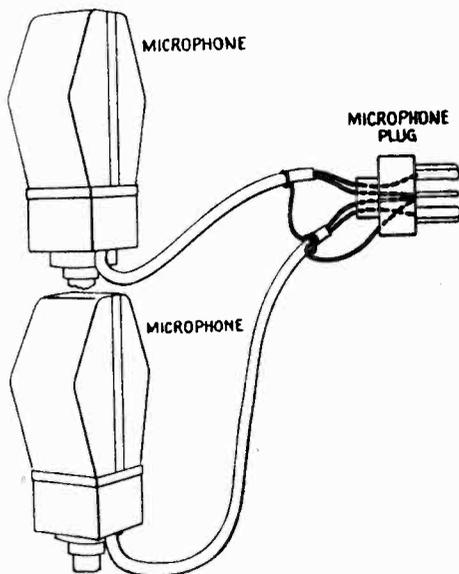

Figure 5—Two microphones wired to one plug
- Connect the two microphones in series to the microphone plug as shown in Figure 5.